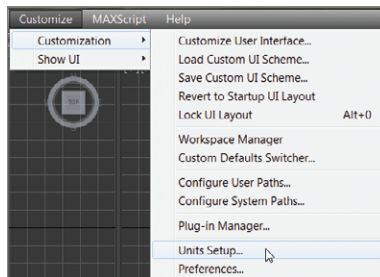

FIGURE 3.1 Accessing the Units Setup options
1. Go to the Customize menu and choose Customization and then Units Setup, as shown in Figure 3.1.